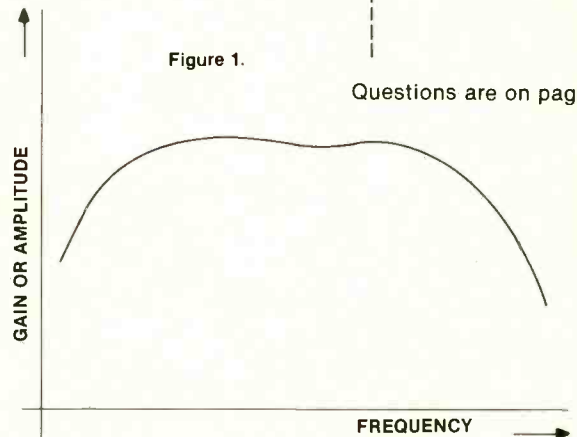

Figure 2.
3. E (From the February 1986 issue.) Actually, formal Bode plots show two things: gain vs. frequency and phase shift vs. frequency. Figure 2 shows a typical Bode plot. When you sweep align an amplifier, the Bode plot appears on the scope screen. From a previous article, you will recognize this to be a frequency domain display.
5. B (From the March 1986 issue, see Figure 2.) A ferroresonant transformer goes into saturation on the peaks of each half-cycle. An L-C resonant circuit is used to drive the transformer into saturation. When the transformer saturates, there can be no further increase in the output. So, the output is regulated to the saturation point.